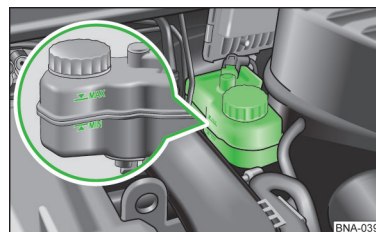

Fig. 81
Check brake fluid level - The brake fluid level must lie between the markings "MIN" and "MAX" » fig. 81.
- If the fluid level drops significantly within a short time or if it drops below the "MIN" » fig. 81 mark, this may be an indication of a leak in the brake system. 🚫 Do not continue driving - There is a risk of accident! Seek help from a specialist garage.